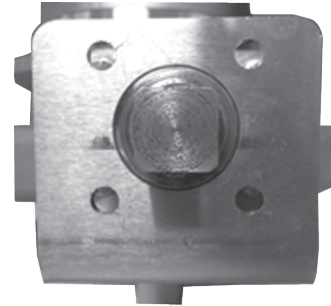

Figure 8. Coupler Installation for Size 4 NPT Single Flange Rotary Actuator
5. With the coupler and stub pinned together and the valve cam touching the valve stem turn the coupling counter clockwise 1/8 of a turn or until the flat of the coupling is square with the valve (see Figure 8).